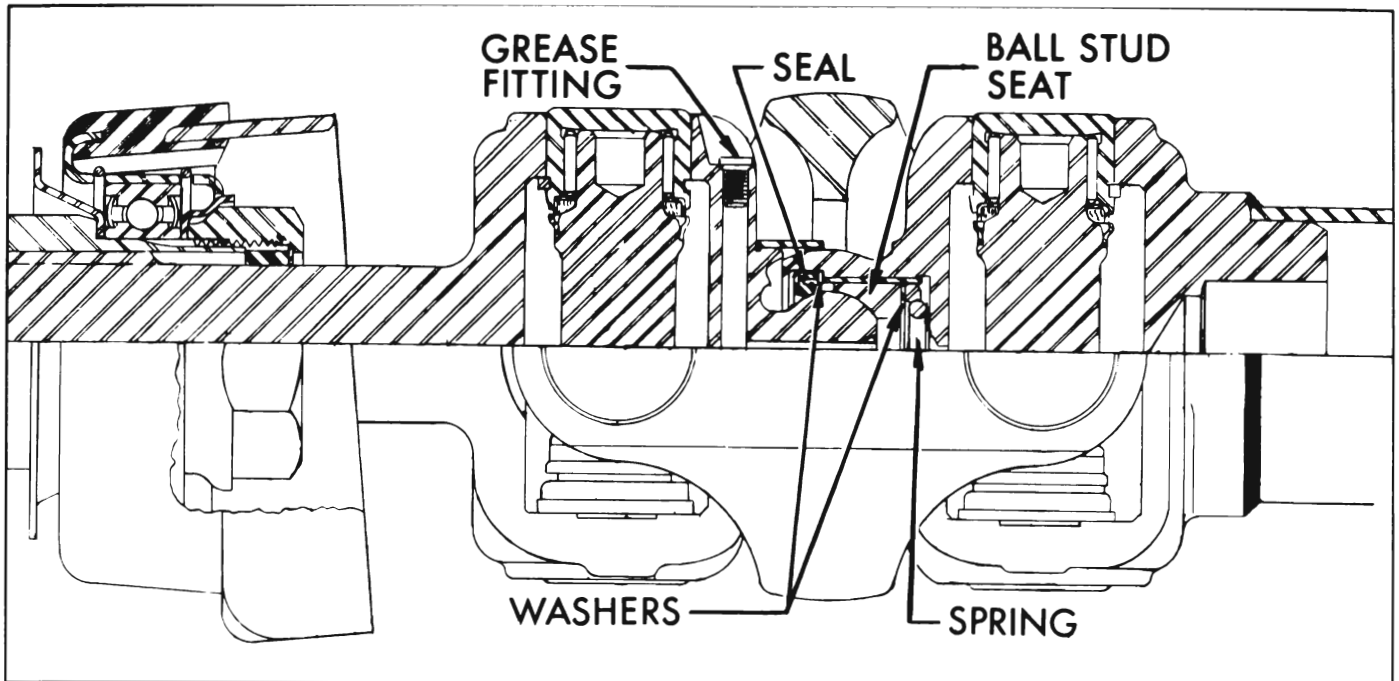

Figure 6-44—Constant Velocity Joint Ball Stud and Seat
1. Pry up rim of lockwasher to disengage flats on bearing locknut. Loosen locknut until free of threads and slide locknut and seal against constant velocity joint. See Figure 6-44.
2. Install spring, small end first. Install smaller diameter washer, ball stud seats, and larger diameter washer. See Figure 6-44.